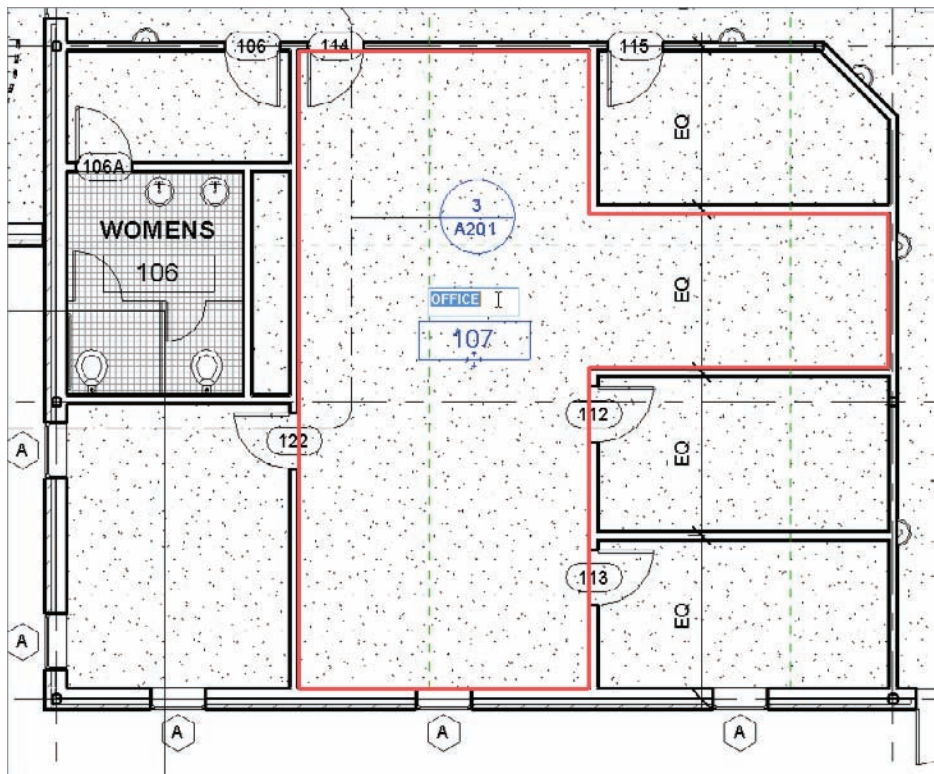

FIGURE 15.5 Renaming the office
3. Pick the large area to the right of the women's lavatory, as shown in Figure 15.5.
4. Rename the room **OFFICE**, and change the number to 107 (see Figure 15.5).